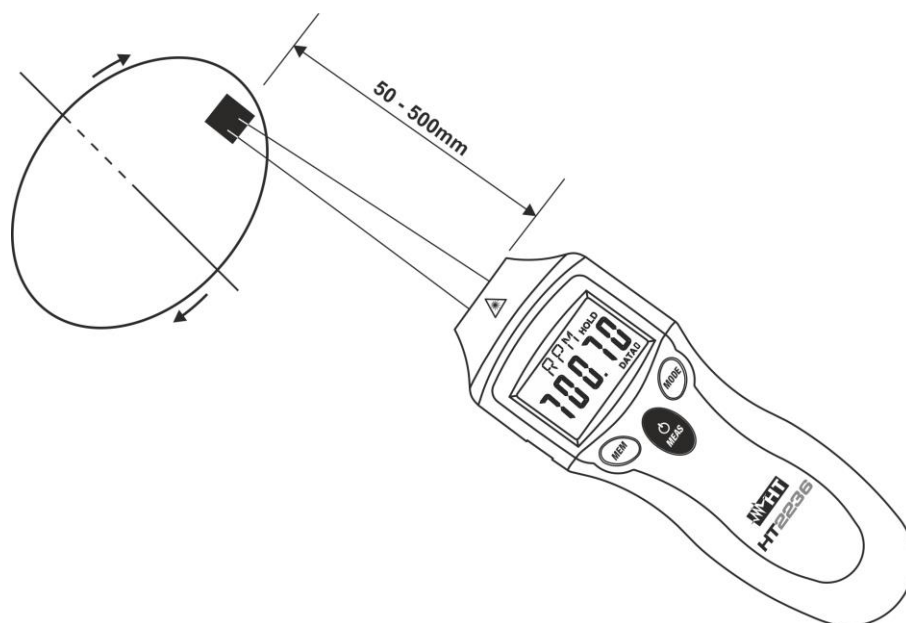

Fig. 2: Speed measurement without contact (RPM)
8. Press and hold the **⏻/MEAS** key and direct the red laser onto the reflective tape stuck to the object to be tested (see Fig. 2) and perform measurement maintaining a distance from the object between 50mm and 500mm.